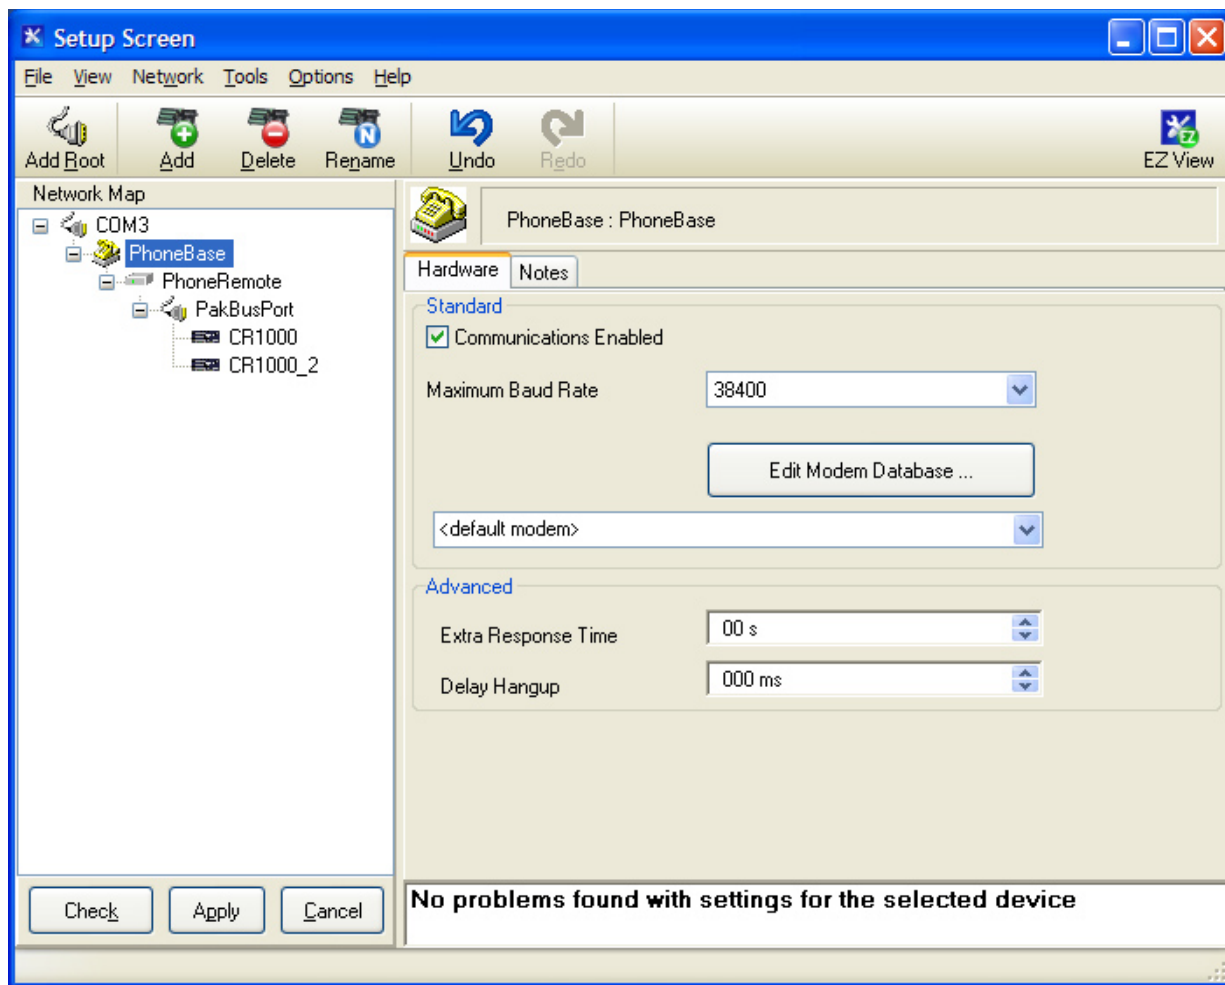

FIGURE I-2. Phone base configuration.
- c. PhoneBase (see FIGURE I-2)